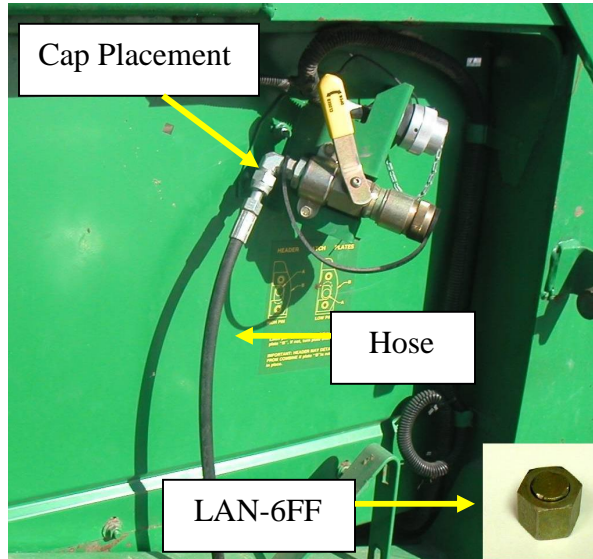

Figure 4
1. Disconnect hose from left-hand hydraulic coupler. (See **Figure 4**)
2. Install Cap (***LAN-6FF**) onto left hand hydraulic coupler. (See **Figure 4**)